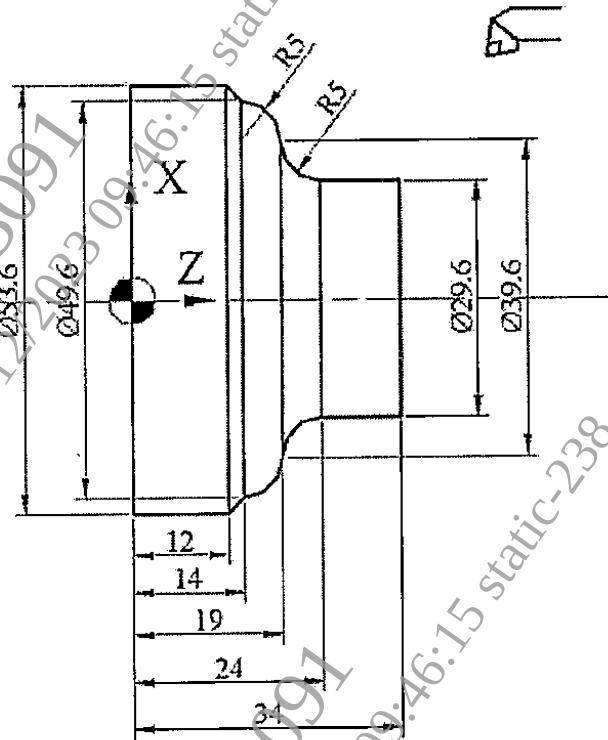

Figure 3. Q.6(a)
b) Write CNC part program for turned component as shown in figure 3 using canned cycles. Assume suitable cutting data. [12]